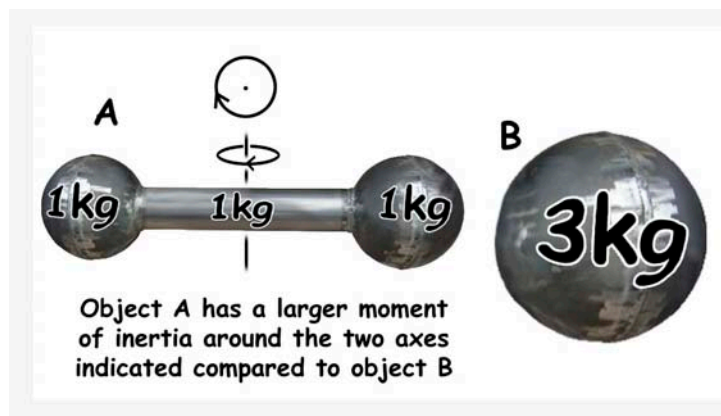

Figure 10 Two objects which have the same mass but different moments of inertia.
*“Moment of inertia”* is a measure of how difficult it is to rotate an object around a given axis (Figure 10). Where the water ballast is contained in tanks fore and aft, as in the Bay Cruiser, filling the tanks makes the boat more similar to the dumbbell shaped object. The axes for which moment of inertia is increased are those for yaw and pitch. The roll axis is not significantly affected.